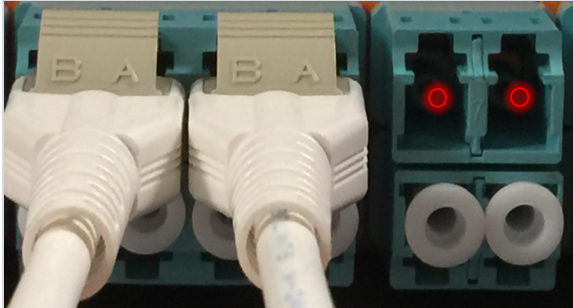

Figure 9: Red Light Passing to the First and Second LC Connectors
- b. Verify light is passing to the TAP's second LC monitor connection as shown in Figure 9: Red Light Passing to the First and Second LC Connectors.